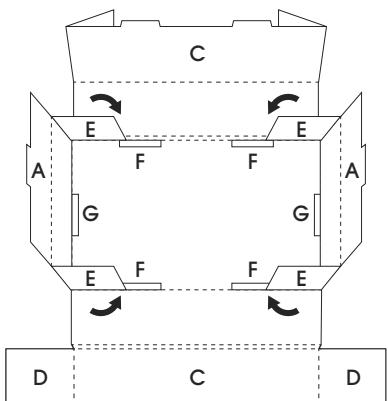

Figure 4
4. On the shorter side of the box, fold in all four side flaps (E) over slots (F). (See Figure 4)